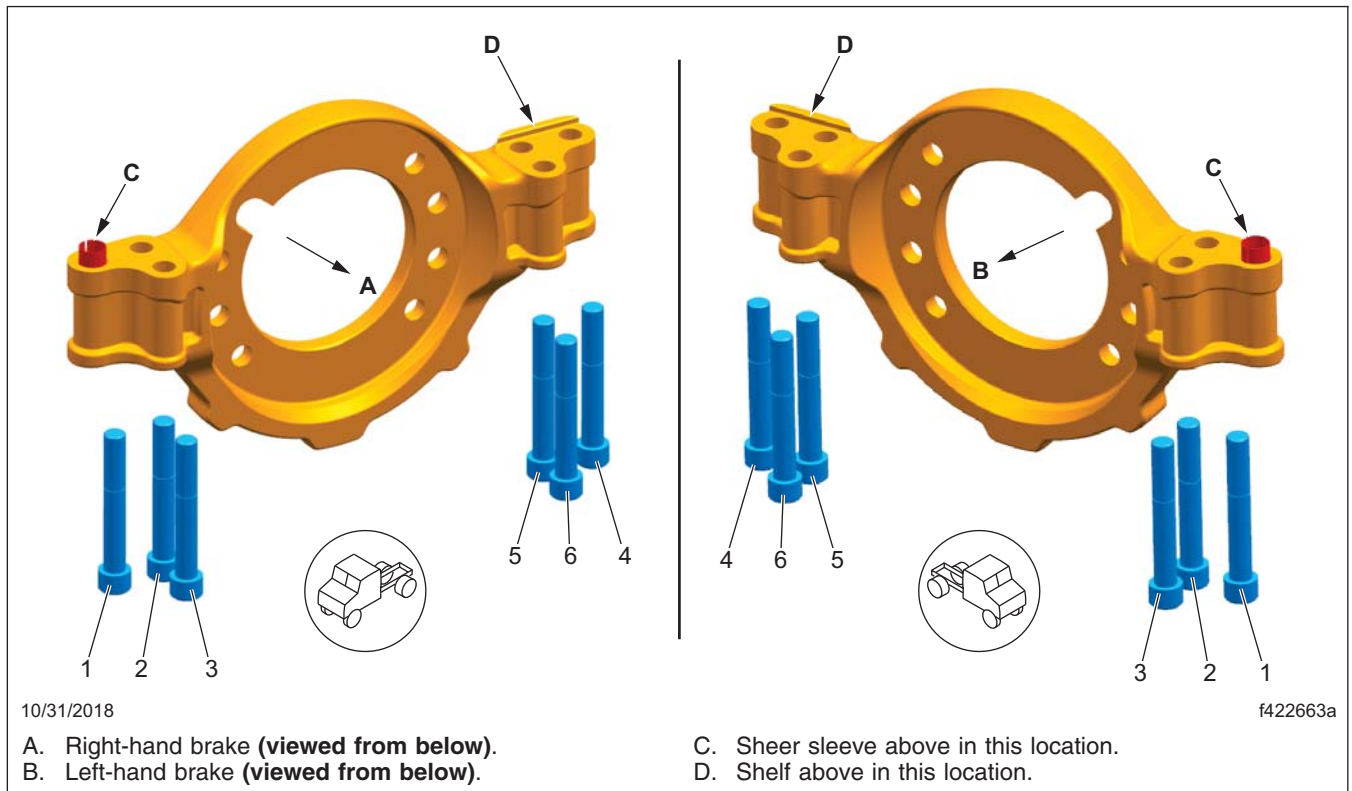

Fig. 12, Bendix Radial Mounted Caliper Tightening Pattern (viewed from below)
- Set a torque wrench to 200 lbf·ft (271 N·m) and tighten the caliper mounting bolts following the tightening pattern shown in Fig. 12. If they do not turn, no further work is needed. If they turn, take the vehicle to an authorized Freightliner dealer to have all of the caliper bolts on that wheel end replaced.